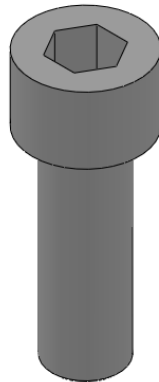
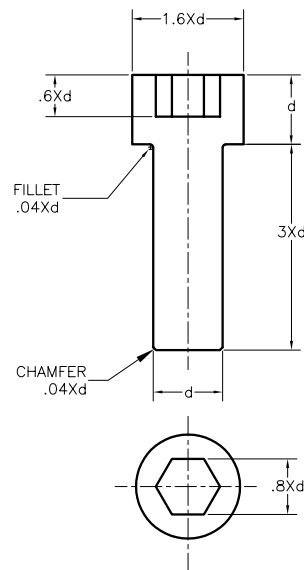
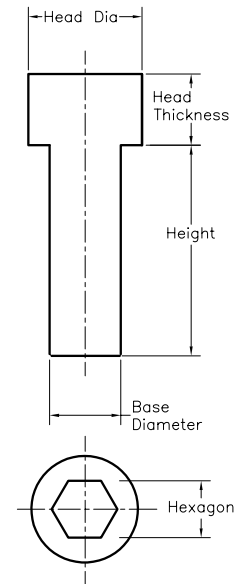

Figure 19-43 Socket Head Screw
Figure 19-44 Parameters of the Socket Head Screw
Figure 19-45 The names of dimensions
In this tutorial, you will create the Socket Head Screw shown in Figure 19-43. Assume the base diameter of the screw **d** as **30 mm**. Add equations to the model, as shown in Figure 19-44. Then, create different configurations by changing the base diameter to **20 mm**, **50 mm**, **40 mm**, and **5 mm** and the other related parameters with respect to the relations given in Figure 19-44.
2. Dimension the sketch based on the relations given in Figure 19-44. While placing the dimensions, you need to change the name of the dimensions in the **Primary Value** rollout of the **Dimension PropertyManager**. Refer to Figure 19-45 for the names of dimensions.
4. Draw a hexagon on the top face of the base feature and dimension it. Change the name of the dimension, as shown in Figure 19-45.
- Enter the dimensions for the new instances with respect to the equations shown in Figure 19-44. The excel sheet after adding the dimensions is shown in Figure 19-47.
- Add equations to the fillet and chamfer dimensions using the **Equations** dialog box, as specified in Figure 19-44.